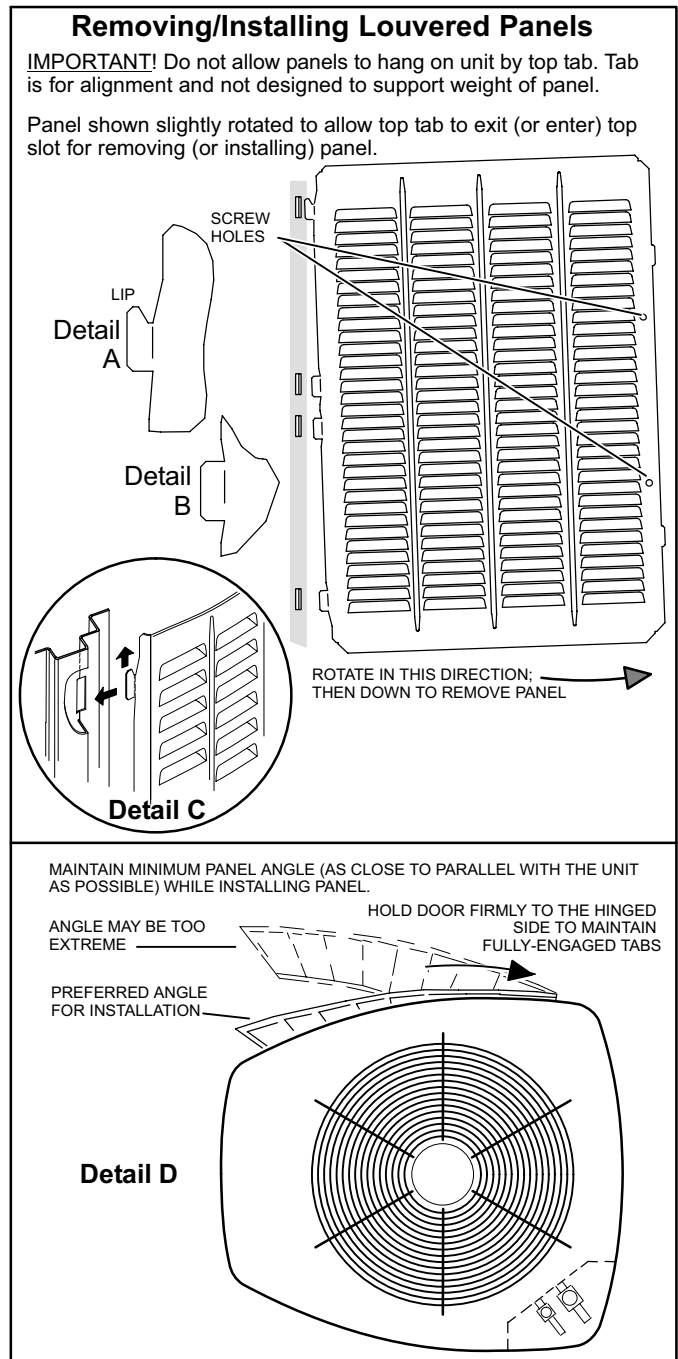

FIGURE 2
- 1 - Remove 2 screws, allowing the panel to swing open slightly (see figure 2).
- 2 - Hold the panel firmly throughout this procedure. Rotate bottom corner of panel away from hinge corner post until lower 3 tabs clear the slots (see figure 2, Detail B).
- 3 - Move panel down until lip of upper tab clears the top slot in corner post (see figure 2, Detail A).
Position and Install Panel—Position the panel almost parallel with the unit (figure 2, Detail D) with the “screw side” as close to the unit as possible. Then, in a continuous motion: Slightly rotate and guide the lip of top tab inward (figure 2, Details A and C); then upward into the top slot of the hinge corner post.